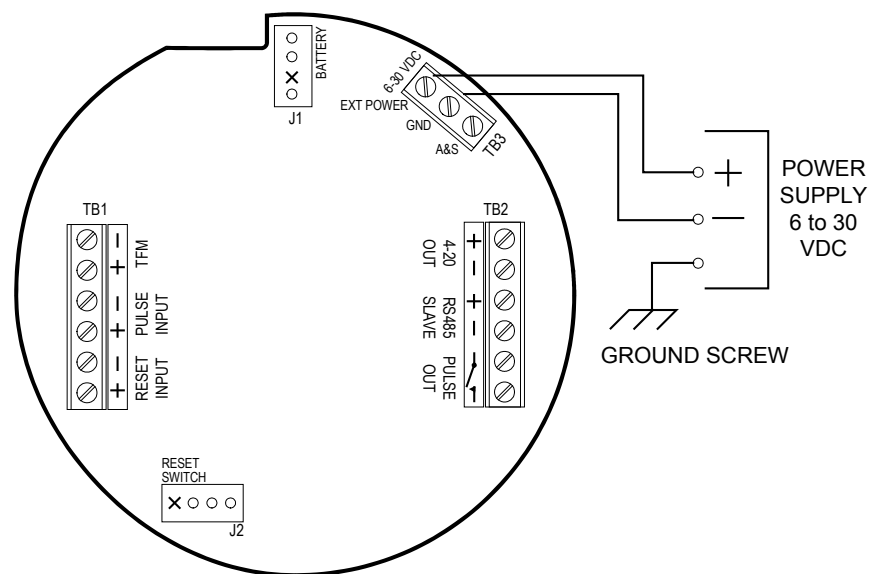

Figure 2.7—External power supply wiring
4. Connect wiring for external power, if appropriate. See Figure 2.7, page 19.
The MC-III WP can be connected to a remote power supply by a two-conductor cable (Figure 2.7, page 19). The power supply and cable must be capable of supplying 6 to 30 VDC @ 10 mA. This capability is available only if the 4-20 mA rate output is not used.
**Caution:** The instrument must be grounded with a protective earth grounding conductor in accordance with national and local electrical codes. To ground the instrument, connect a ground wire to the internal ground connection screw located inside the enclosure (Figure 2.7). For DC-powered installations, route the protective earth grounding conductor into the enclosure with the incoming power conductors.